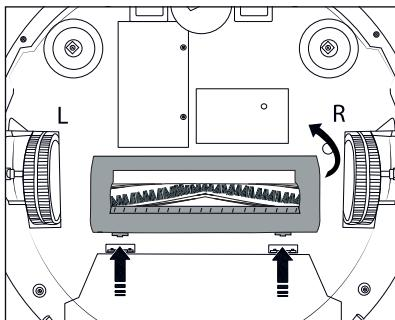

Fig. 14
- ♦ Press the two release buttons on the rotary brush cover 15 to release it. Remove the rotary brush cover 15 from the appliance (see Fig. 14).